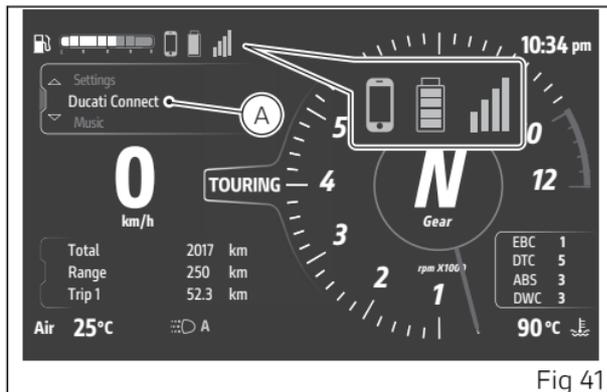

Fig 41
- on the instrument panel, use the joystick ▲ ▼ to select the "Ducati Connect" item from the Interactive Menu and press ENTER (A, Fig 41).
- on the instrument panel, use the joystick to select the “Ducati Connect” item from the Interactive Menu and press ENTER (A, Fig 41).